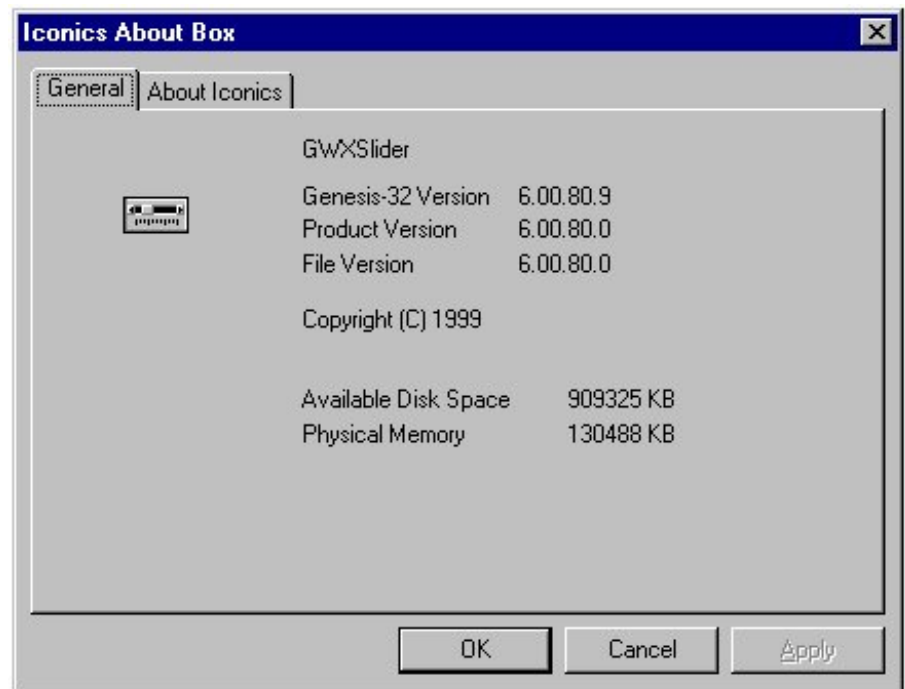

Figure 17-14: Iconics About Box
3. Select the About button. The Iconics About Box appears (Figure 17-14).